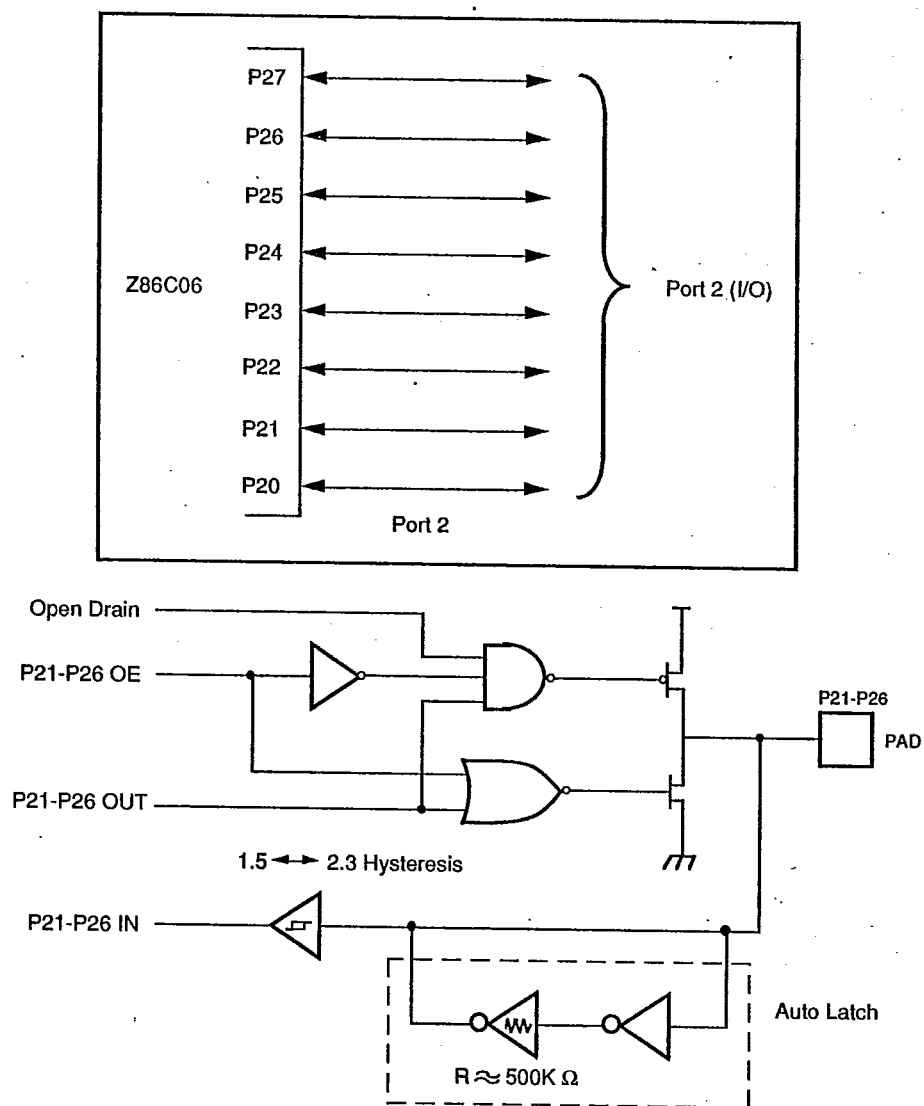

Figure 3a. Port 2 Configuration
Port 2 P20-P27. Port 2 is an 8-bit, bi-directional, CMOS compatible I/O port. These 8 I/O lines can be configured under software control to be an input or output, independently. Input buffers are Schmitt-triggered and contain Auto-Latches. Bits programmed as outputs may be globally programmed as either push-pull or open drain (Figure 3a and 3b). In addition when the SPI is enabled, P20 functions as data-in (DI), and P27 functions as data-out (DO) for the SPI.